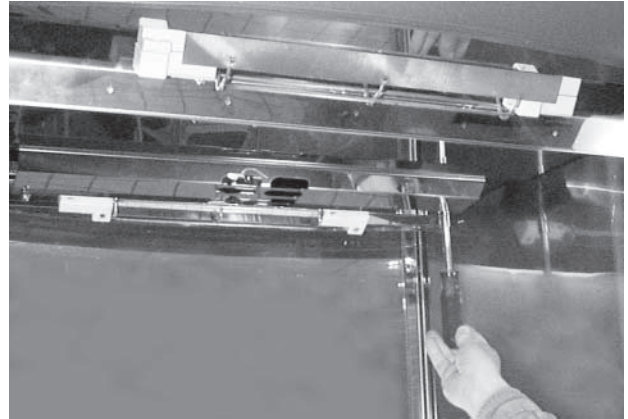

Fig. 59
2. Use a  $7/16$ " nutdriver and unscrew two  $7/16$ " nuts, one on each side of the vent-grate. Remove the vent-grate (Figs. 59, 60).